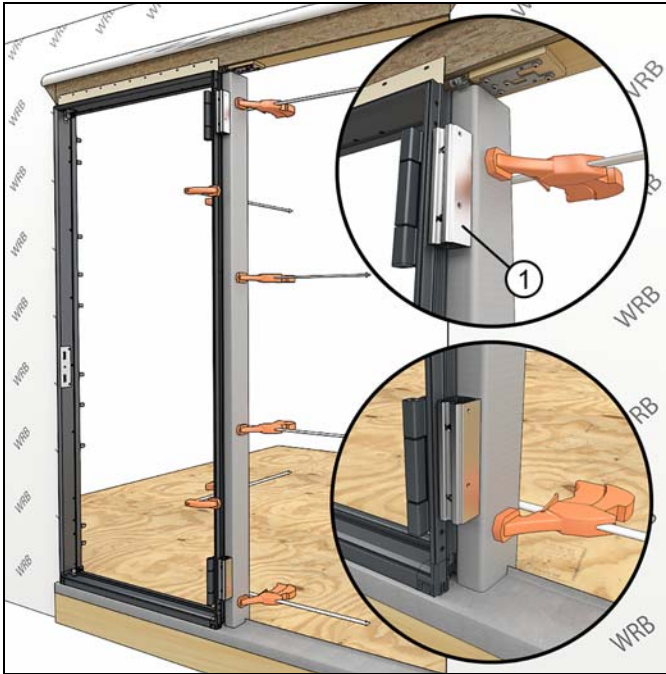
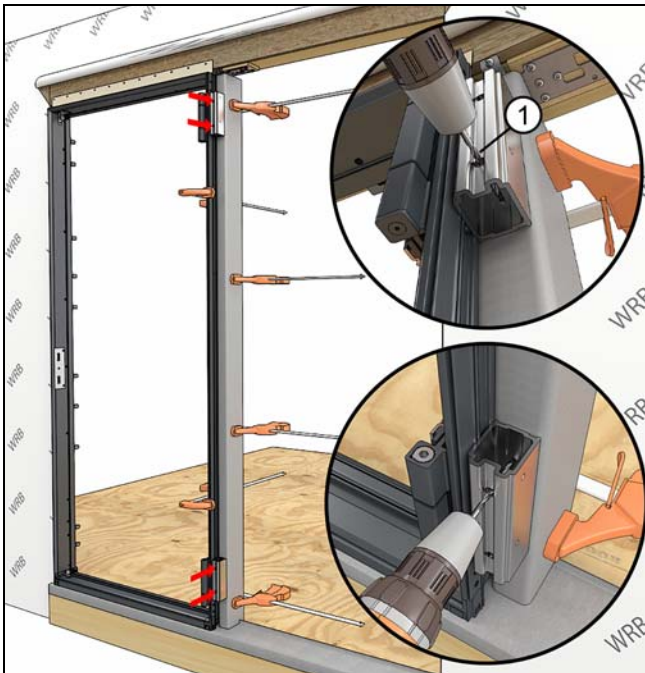
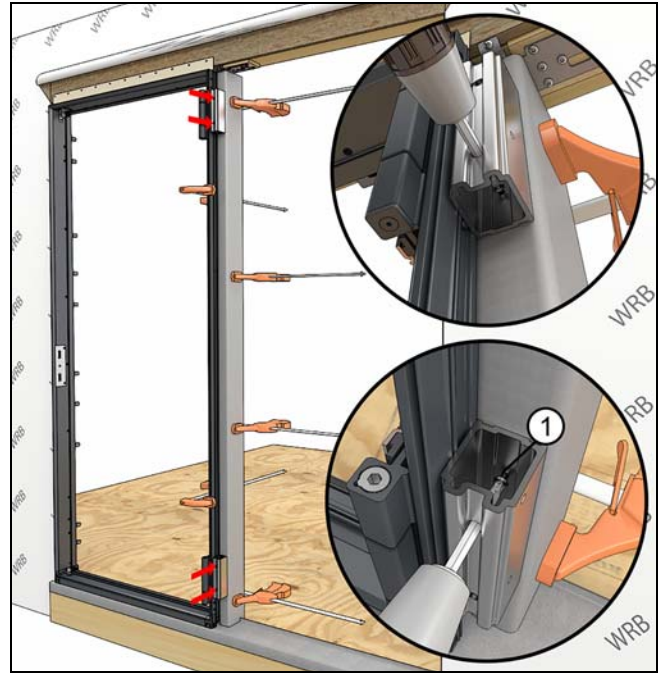

Figure 255 Clamp tube steel to frame against aluminum mull filler blocks.
Figure 256 Predrill into tube steel
Figure 257
1. Fasten the tube steel to the aluminum mull filler blocks using the access holes on the mull filler blocks. Predrill with #23 drill bit and fasten with #8 x 1/2" trilobular screws. See Figure 255, Figure 256, and Figure 257.